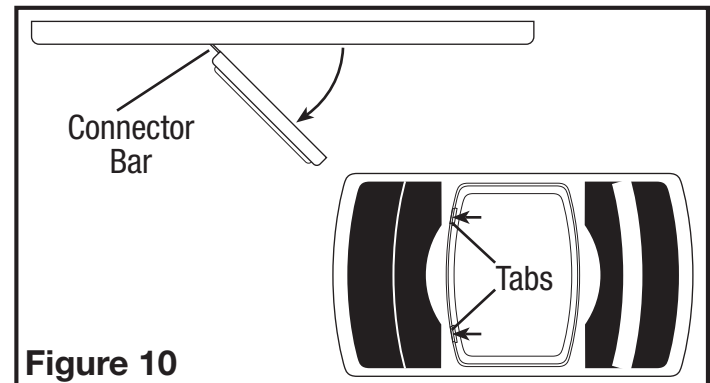

Figure 10
3. Remove grill from carton and open light lens area by pushing in on the two tabs of the light lens and pulling outward from lens. The lens will swing open on the connector bars. DO NOT remove the lens from the grill (**Figure 10**).